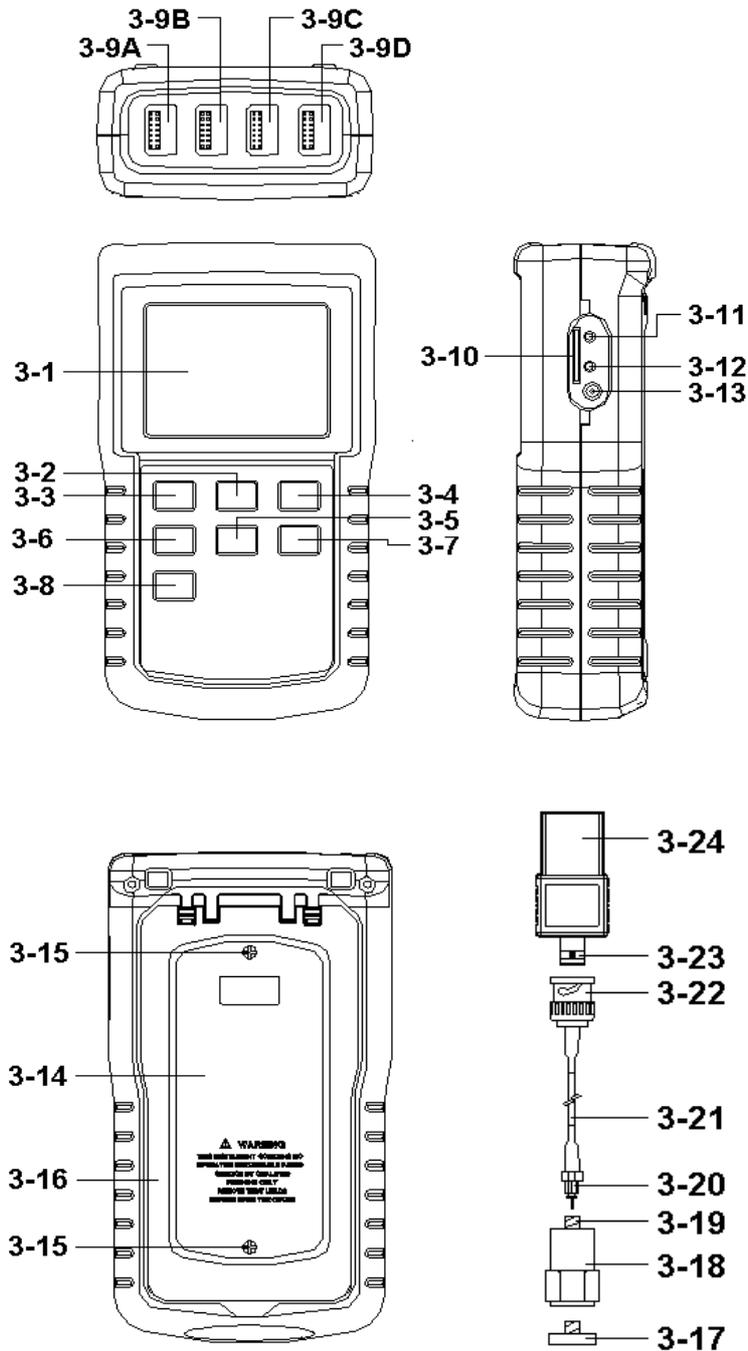
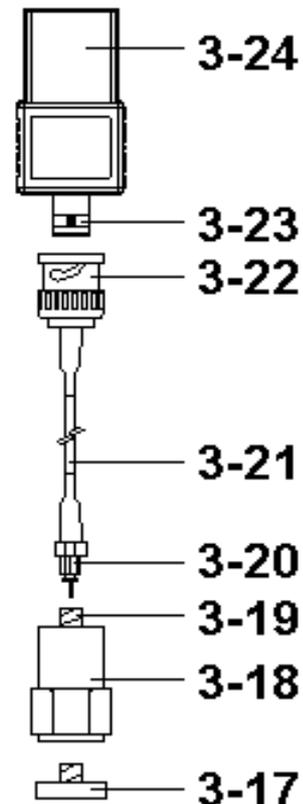

Fig. 1
Fig. 2
Zero Button	Under Acceleration (RMS) measurement, sensor motionless , press two Buttons (3-5, 3-7, Fig. 1) >3 seconds.
Max. Hold Reset Button	Under Max. hold measurement, press two Buttons (3-5, 3-7, Fig. 1) >3 seconds.
1. Vibration Sensor, 3-18, Fig 2
2. Sensor Cable, 3-21, Fig. 2
- 3 VB-83 module, 3-24, Fig. 2
* Plug in the " Cable BNC Plug " (3-22, Fig. 2) to the " BNC Socket of VB-83 module " (3-23, Fig. 2).
* Plug in the " Mini plug of cable " (3-20, Fig. 2) to the " Input socket of vibration sensor " (3-19, Fig. 2).
Plug in the " Plug of VB-83 module " (3-24, Fig. 2) to the " CH1 VB-83 Input Socket " (3-9A, Fig. 1). If you have extra vibration sensor set, then Plug in to the " CH2/CH3/CH4 VB-83 Input Socket " (3-9B, 3-9C, 3-9D Fig. 1)
When change the VB-83, it is not necessary to make calibration again due to the vibration detail calibration information already save into the " VB-83 module " (3-24, Fig. 2)*
2)1) Power on the meter by pressing the " Power button " (3-2, Fig. 1) > 3 seconds continuously.
The " Display " (3-1, Fig. 1) will show the 4 channels vibration value (CH1, CH2, CH3, CH4) at the same time. If some channels not plug in the VB-83 Vibration set, then the corresponding channel Display will show " - - - - ".
- * If the surface material of measuring article is the ferrous material, connect " Vibration sensor " (3-18, Fig. 2) with the " Magnetic base " (3-17, Fig. 2). Put the whole unit (Vibration sensor & Magnetic base) to the surface of measuring article.*
- * Please do not use the finger or hand to touch the the " Sensor cable " (3-21, Fig. 1).*
Select the desired display unit by pressing the " ACC/VEL/DISP Button " (3-5, Fig. 1) > 3 seconds (not release the button), the Display will show the following units according Acceleration / Velocity / Displacement in sequence.
Select the desired function (RMS, Peak, Max HOLD) by pressing the " Function Button " (3-7, Fig. 1). continuously (not release the button), until the Display will show the desiring function (RMS, Max HOLD, Peak) , then release the " Function Button " (3-7, Fig. 1).
- 1) Vibration sensor set, VB-83 is ready, connect the " Plug of VB-83 module " (3-24, Fig. 1) to the " CH1, CH2, CH3, CH4 VB-83 Input Socket " (3-9A, B, C, D, Fig. 1).
- 4) Under Acc./Velocity/Displacement measurement if press the " ▲ Button " (3-5, Fig. 1) and " ▼ Button " (3-7, Fig. 1) together > 3 seconds, then the " CH1 " symbol will flasing.
** Press the " SET Button " (3-6, Fig. 1) to select the channel no. (CH2, CH3, CH4), after the exact channel is selected, the channel no. will flashing .*
Press " Enter Button " (3-8, Fig. 1) to let the display reach zero value according the selected channle no. (flashing).
Under execute the Max Hold function if press the " ▲ Button " (3-5, Fig. 1) and " ▼ Button " (3-7, Fig. 1) together > 3 seconds, then the " CH1 " symbol will flasing.
Press " Enter Button " (3-8, Fig. 1) to clear the existing Max hold value according the selected channle no. (flashing).
During the measurement, press the " Hold Button " (3-3, Fig. 1) once will hold the measured value & the LCD will display a " HOLD " symbol.
- 1) The data record function records the maximum and minimum readings. Press the " REC Button " (3-4, Fig. 1) once to start the Data Record function and there will be a " REC " symbol on the display.